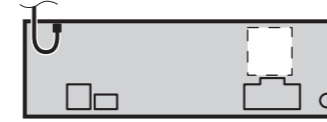

Fig. 5
- The cords must not cover up the area shown in the figure below. This is necessary to allow the amplifiers to radiate freely. (Fig. 5)